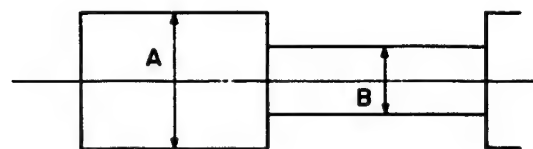

Fig. 11 Envelope output and output level difference
1. Make recordings on E-120 and E-180 tapes, and make sure the playback output envelope meets the specification shown in Fig. 11.
2. In playback mode using the same video deck as used for the recording, (with an E-120) the video envelope should meet the specification shown in Fig. 11. In mode, (A) should be same as (B). If the difference is excessive then the upper cylinder should be replaced.